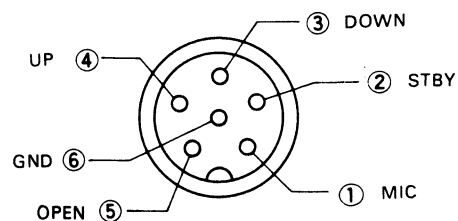

Fig. 23 MIC terminals
- Connect MIC connector as shown in Fig. 23